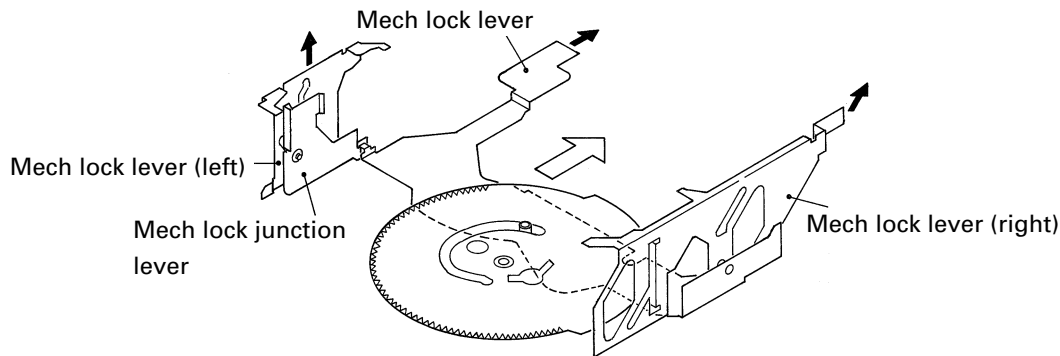

Fig. 25
- c) With the movement of the Mech lock lever, the Mech lock lever (right) moves in a slanting direction as indicated by the arrow in Fig. 25 to push the mechanism forward and downward.